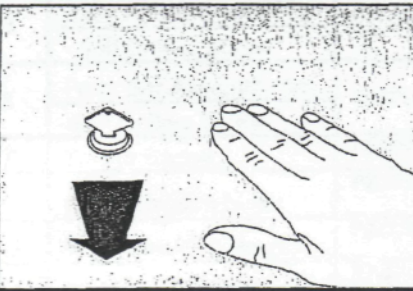

Fig.12
13. Close the lid and try the locks. You may need to adjust the lock brackets on the Ute tub up or down. When correctly adjusted, you should need to apply **slight** pressure to the lid in order to operate the locks. **Refer to Fig. 12 and 12A**